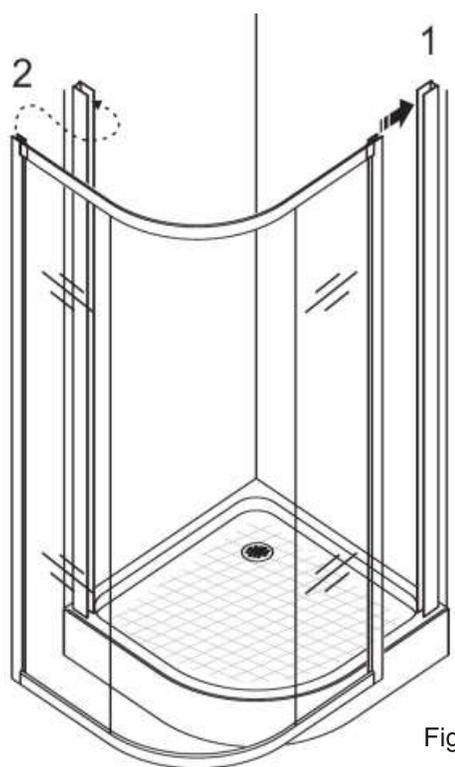

Figure 5
- Place the whole assembly on the shower base by inserting the wall jamb adaptors into the wall jams as shown in figure 5. This step requires 2 people.